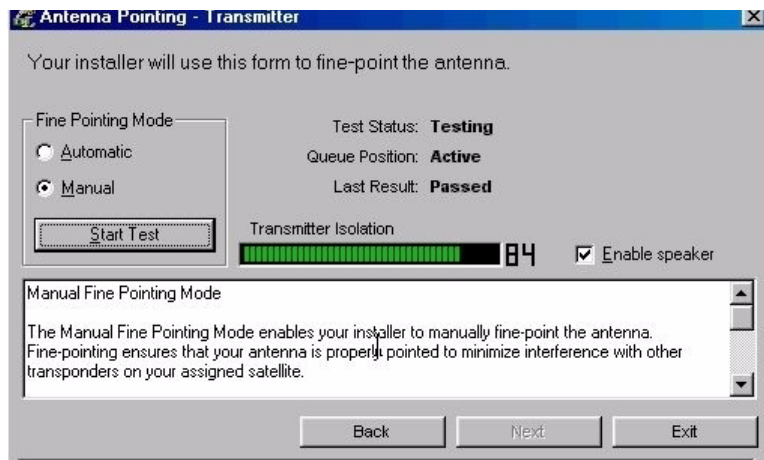

Figure 27: Start manual cross-pol; pass and peak isolation
11. Select **Next** to go to the Antenna Pointing - Transmitter screen. See Figure 27.